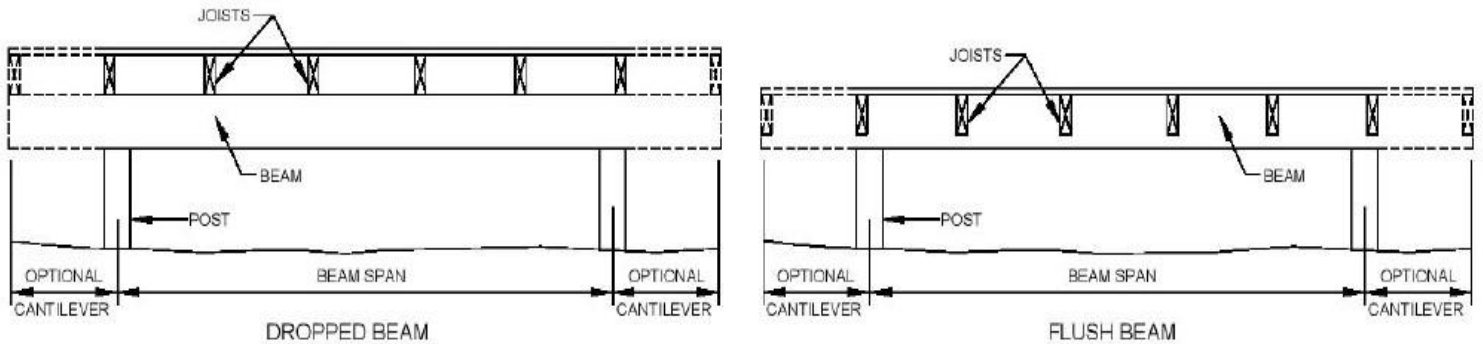

FIGURE R507.6
- As shown in **Figure R507.6**, beam span is measured between the centerlines of the two adjacent posts and does not include the overhangs.
- As shown in **Figure R507.6**, beams may overhang past the center of the post **up to one-fourth** of the actual beam span.